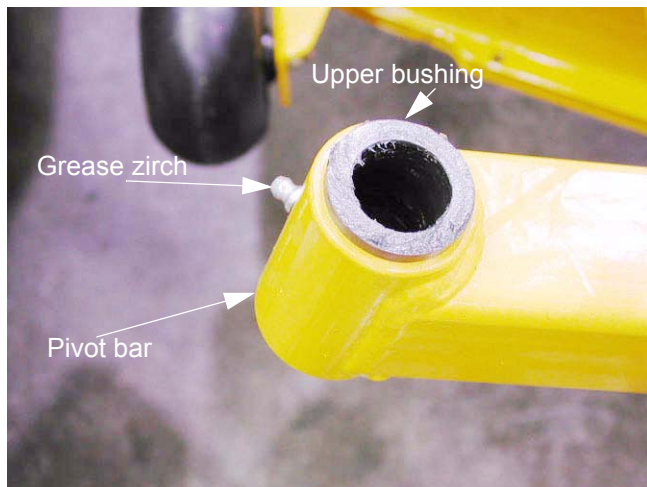

Figure 13.7
13.7. The bushings can be driven out and replaced if necessary. See Figure 13.7.